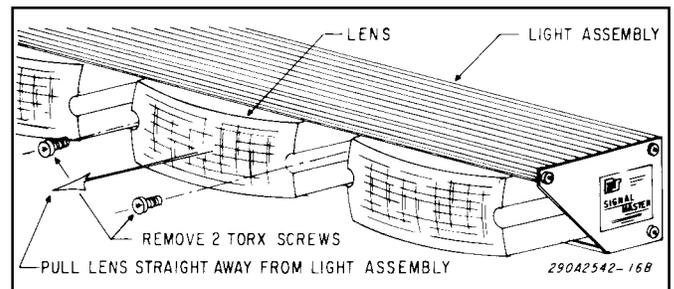

Figure 5.
1. See figure 5. Remove and retain the two screws which secure the lens. Carefully pull the lens straight away from the light assembly.